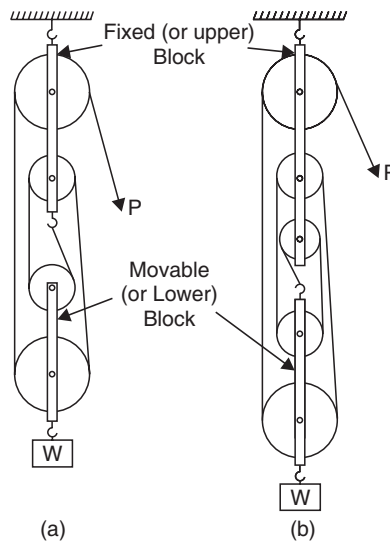

Fig. 10.8. Second system of pulleys.
**10.12.4.2. Second system of pulleys (or pulley block system).** Second system of pulleys consists of two blocks each containing a number of pulleys. The *upper block is fixed to a fixed support and the lower block is movable*. The same string is passed round all the pulleys starting from the top pulley of the fixed block where effort is applied, to the bottom pulley of the movable block going round the next top pulley of the fixed block and next bottom pulley of the movable block and so on. The end is finally attached to fixed block if the number of pulleys in each block is same [Fig. 10.8 (a)]. If the number of pulleys in the movable block is one less than that in the fixed block then the end of the string is attached to the movable block [Fig. 10.8 (b)].